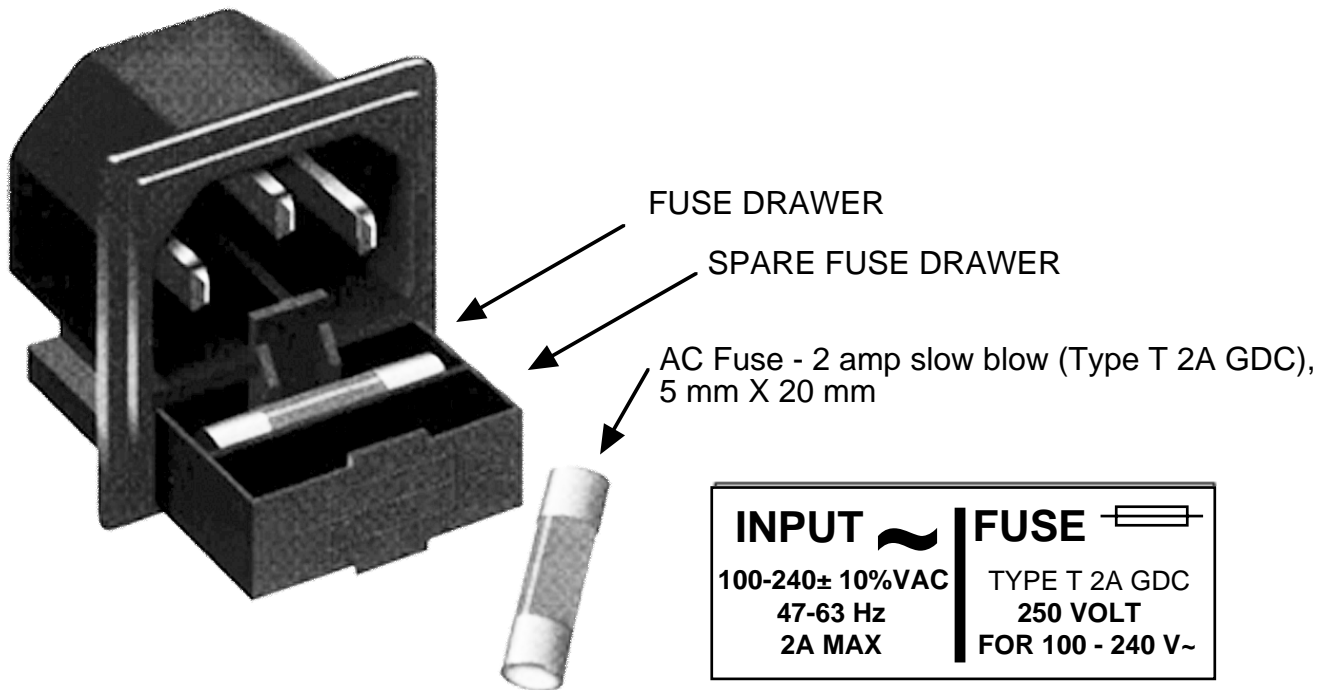

FIGURE 2.4 Fuse Location and Spare Fuse
- 7.) **AC Fuse** - The fuse is a 5 mm X 20 mm, 2 amp slow blow (Type T) and is inserted in the far slot in the drawer below the AC input as shown in Figure 2.4. There is a spare fuse in the near slot. If a fuse continues to open, the power supply is most likely defective.